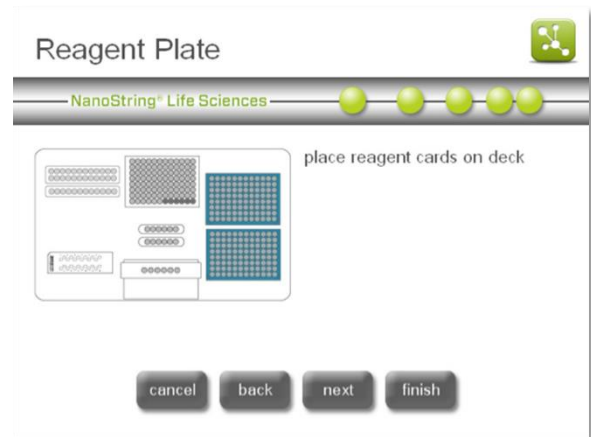

Figure 19: The 'Reagent Plate' screen.
- The 'Reagent Plate' screen will appear (**Figure 19**). Remove the clear plastic lids and place the Prep Plates on the deck. Make sure plates are oriented with the label facing the operator and that they are flush with the deck surface by aligning the plate on the positioning pin and pressing down firmly near the plate catch (**Figure 20**). If running 6 or fewer lanes, only the front plate needs to be loaded onto the deck. Press **next**.